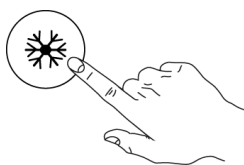

Fig.21
- 2- Press button "F" short cold final rinse before or right after have started washing cycle. (Fig.21)